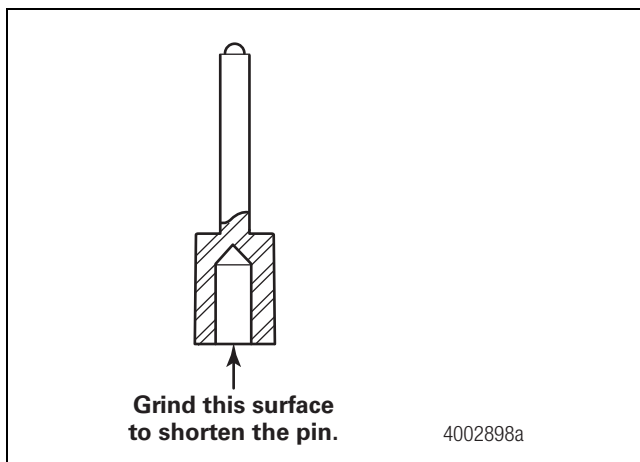

Figure 8.8
- B. Grind the bottom of the anvil pin as needed. Figure 8.8.